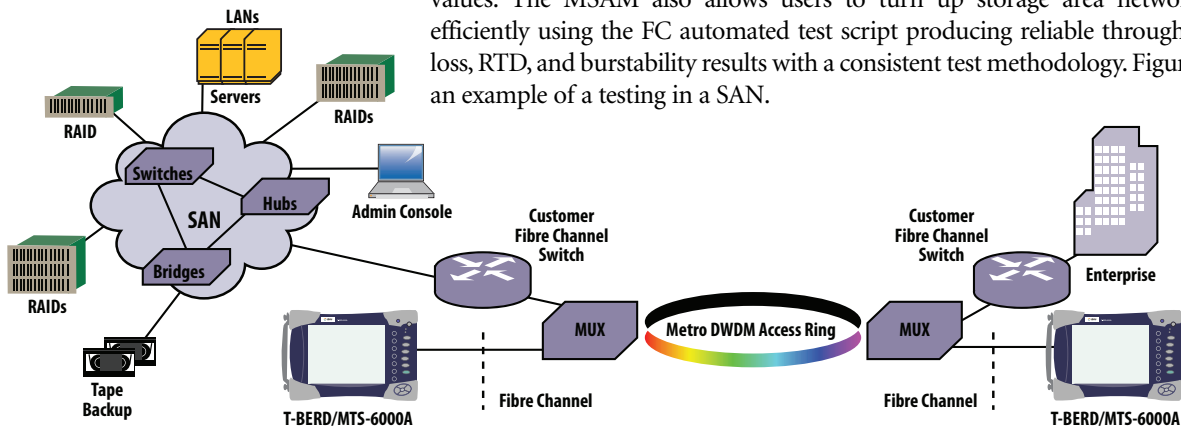

Figure 7. Storage area network
The MSAM tests 1, 2, 4, and 10 Gb/s fibre channel (FC) and fiber connection (FICON) services. Users can manipulate various fields of the FC frames to emulate end-customer traffic and perform BER measurements on L1 and L2 circuits. The MSAM supports buffer crediting capability, which lets providers verify the effect of delay on the link throughput and test the ability of the link to obtain the optimum buffer credit values. The MSAM also allows users to turn up storage area networks (SANs) efficiently using the FC automated test script producing reliable throughput, packet loss, RTD, and burstability results with a consistent test methodology. Figure 7 displays an example of a testing in a SAN.